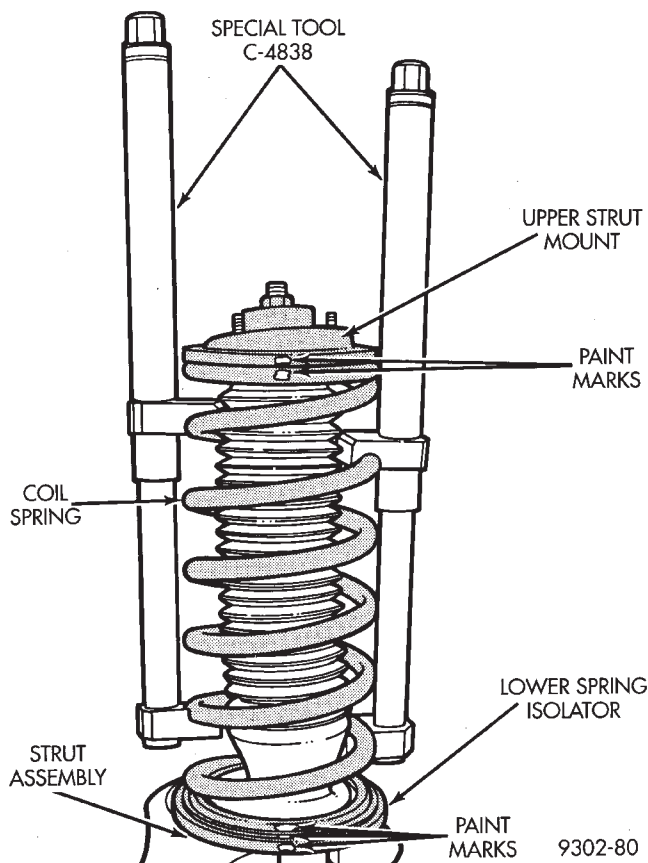
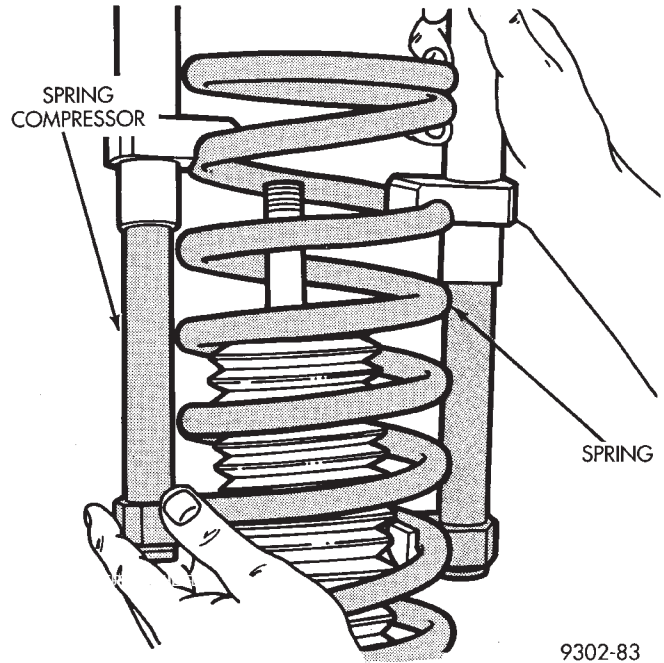

Fig. 39 Compressing Strut Assembly Coil Spring
Fig. 42 Coil Spring Remove And Install
(1) Remove strut assembly requiring service from the vehicle. Refer to Strut Assembly Removal in Servicing Rear Struts, in this section of the service manual.
(2) Position strut assembly in a vise (Fig. 39). Using paint or equivalent, mark the strut unit, lower spring isolator, spring and upper strut mount for indexing of the parts at assembly.
CAUTION: When installing spring compressors (Fig. 39) on coil spring, do not position the spring compressors on the sleeves of the coil spring. Positioning the spring compressors on the sleeves could cause the sleeve to dislodge from the coil spring when it is compressed. This would result in the required replacement of the coil spring.
(3) Position Spring Compressors, Special Tool C-4838 on the strut assembly spring (Fig. 39). Compress coil spring until all load is removed from upper strut mount assembly.
(6) Remove the coil spring and the spring compressor as an assembly from the strut (Fig. 42).
(4) Lower the coil spring and compressor onto the strut unit (Fig. 42). Align the paint mark on the spring with the paint mark on the strut unit (Fig. 39).